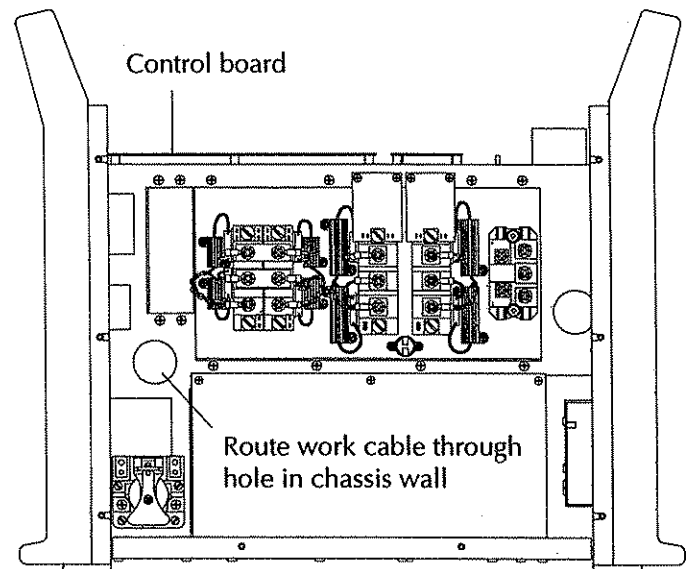

Figure 5 - Route Work Cable Through Chassis Wall
12. Route the work cable through the hole in chassis interior wall - Fig 5.